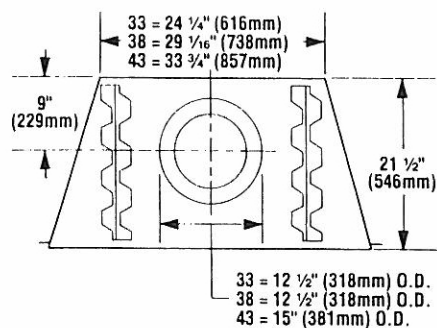

Figure 12
Step 6. Attach the chimney collar enclosure kit, Model CCEK, around chimney collar with the screws provided (Figure 12).